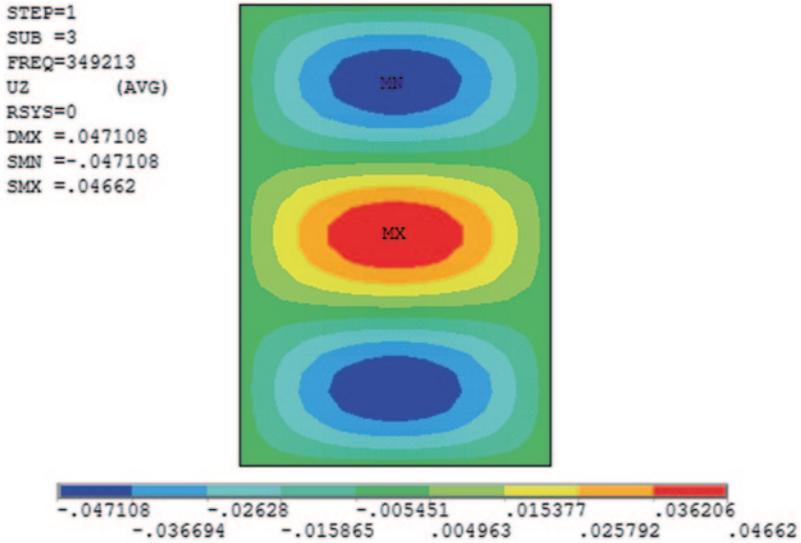

Fig. 8.55 Contour plot of u_z field (z-displacement) under third buckling mode
- Repeat for modes 3 and 4 to obtain plots similar to those given in Fig. 8.55 and 8.56.